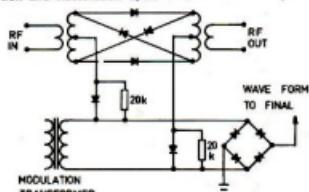

FIG. 3. BALANCED MODULATOR
4. A suggested method of connecting the balanced modulator so that it is modulated with the same audio as the final is shown in Fig 3. The final could alternatively be screen modulated, although this results in a loss of efficiency.